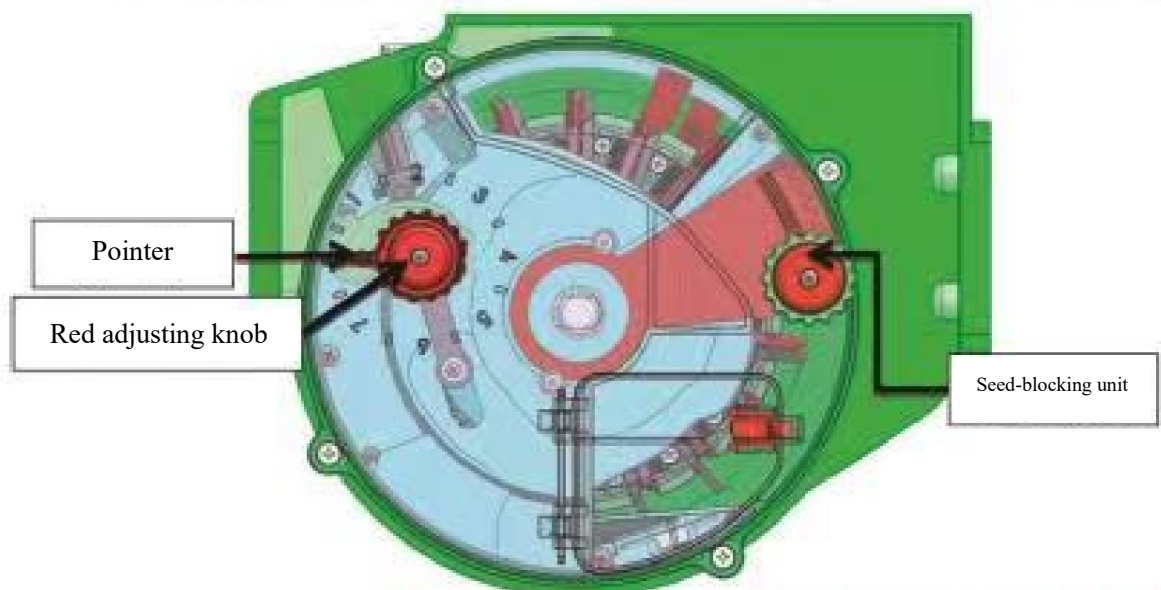

Figure 1
The seed metering unit is the key component of the planter, and the spoon-clamping type seed-metering unit is used for planting corn (see Figure 1).
(1) Adjust the planter to make the seed-metering unit in horizontal position before operation.
(2) Check the seed clamping status: after adjusting the horizontal status, lift the planter off the ground and keep the ground (driving) wheel 4 inch from the ground. After putting in seeds, turn the ground wheel towards the tractor by hand. At same time, check the seed clamping status through the transparent cover. If any cavity is found, it means that the seed clamping port is too small and shall be adjusted to a bigger position. If the double seed rate is high, the seed clamping port shall be adjusted to a smaller position.
(3) Adjustment unit: due to the different sizes of seeds, the seed metering unit is set up with a set of units to adjust the size of the clamping port. The adjustment unit has a pointer and a total of 16 scales arranged in a circle. It is adjusted by the red adjusting knob with a pointer, as shown in Figure 1. When the scale is adjusted from 1 to 2, the seed clamping port is extended or shortened by 0.1 inch, and when the scale is adjusted between 1 and 2, the seed clamping port is extended or shortened by 0.05 inch. Generally, the pointer is set at the scale of 6 as the factory default settings.
(4) Adjustment method: first pull the red adjusting knob outward, and then turn it according to the scale. When it is found that more seeds are not clamped by the seed scoop, turn the pointer to the direction of large numbers. Observe the seed clamping